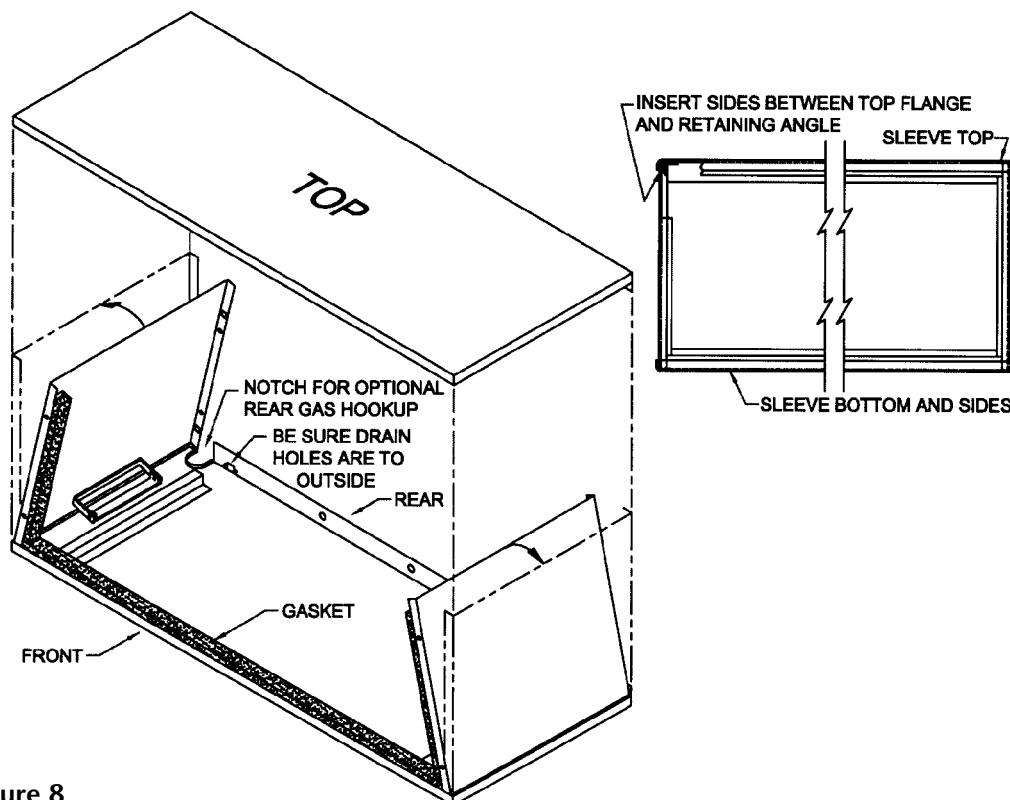

Figure 8
1. Unfold the sides of the wall sleeve and assemble the top, so that the sides wedge between the top flange and the retaining angle. (See **Figure 8**.) Apply 4 screws provided to secure top to the sides.